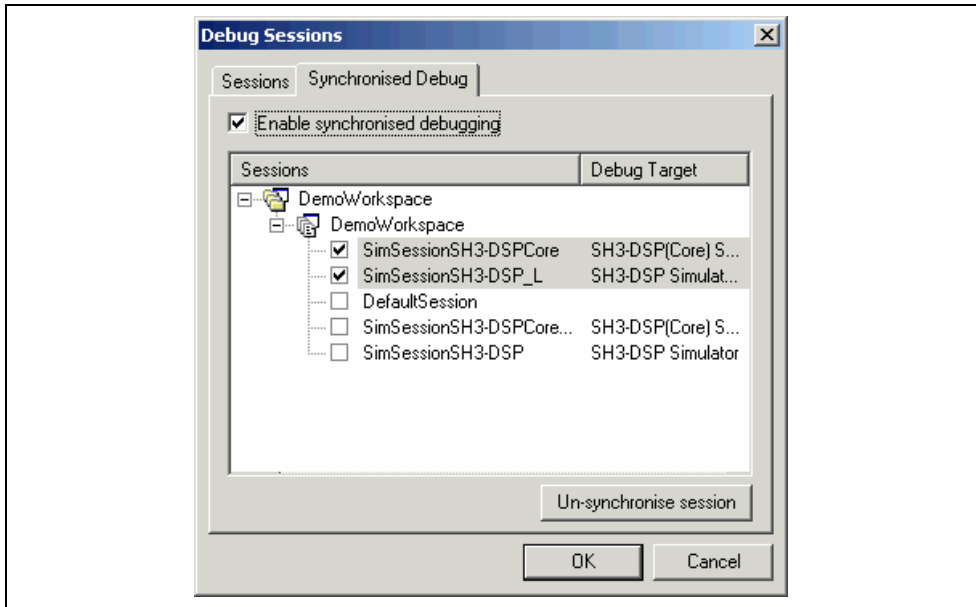

Figure 4.113 Simulator Memory Resource Dialog Box
2. Select the “Synchronized Debug” tab of the dialog. The dialog displayed in figure 4.113 is displayed.